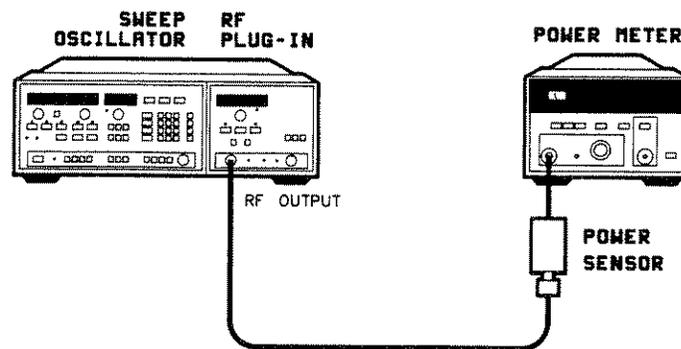

Figure 4-3. Maximum Leveled Output Power, Output Power Variations, and Power Level Accuracy Test Setup
12. Connect the equipment as shown in figure 4-3.